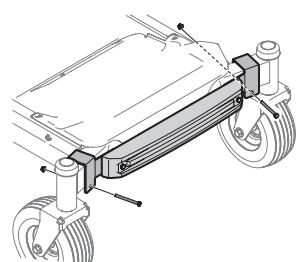

Figure 38
2. Attach the weight bar assembly to the front axle with a 3-1/4" screw (710-3056) and flange nut (712-04063) from the hardware pack 689-02200 on the left side. Repeat for the right side. Do not fully tighten at this time. See Figure 38.